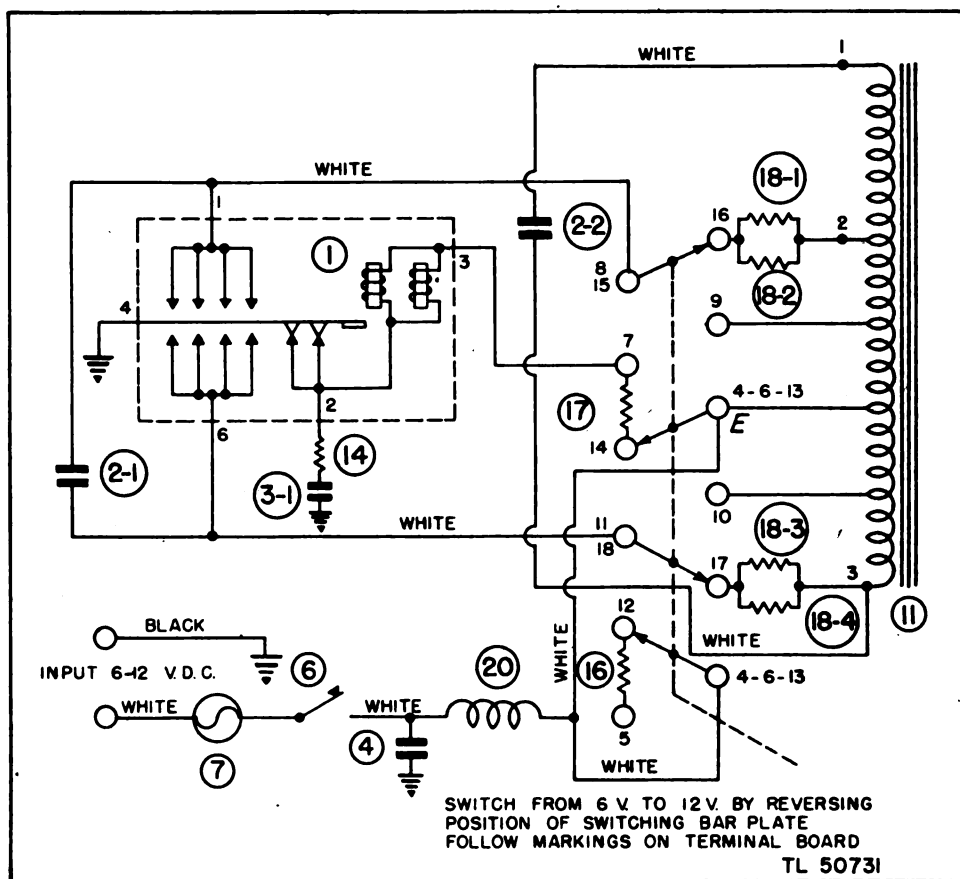

Figure 13. Input circuit, Voltage Converter PP-49/VVX-1.
a. *Input Circuit (fig. 13).* (1) When the ON-OFF switch (6) is thrown to ON, current flows through the fuse (7), the ON-OFF switch, and the RF choke (20) to the switching panel where it flows to tap E on the transformer. In the 12-